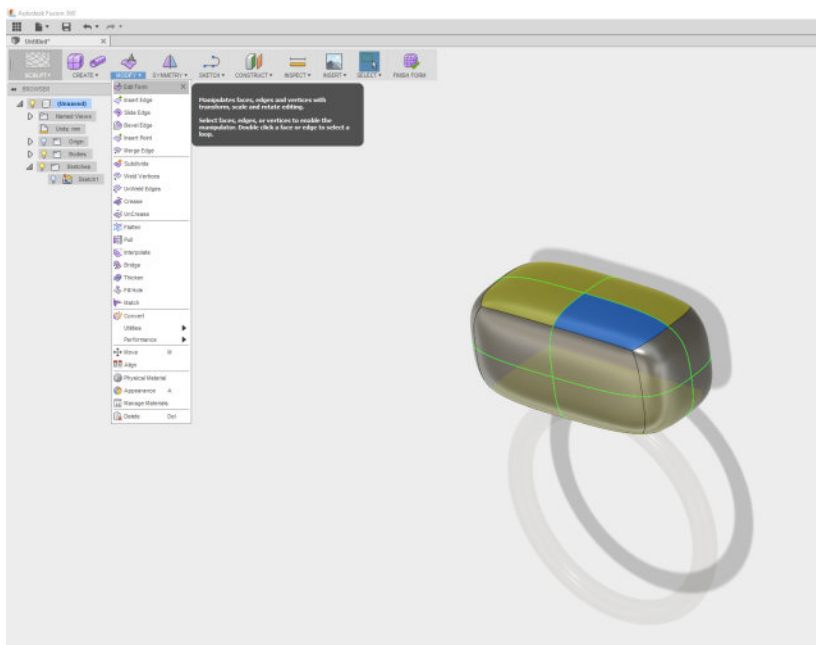
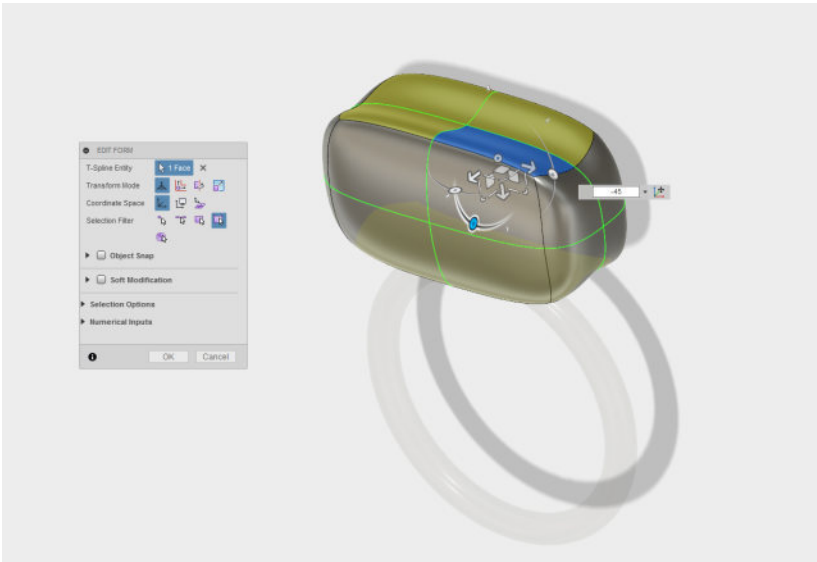

Figure 11-16. A face of the box has been selected, turning it blue. The Modify function has been selected.
Figure 11-17. *Twisting the faces inward using one of the manipulator widget handles*
19. Hover your mouse on top of the box. Click one of the top faces and it will turn blue as shown in Figure 11-16.
20. On the top menu bar click the down arrow under Modify and select Edit Form as shown in Figure 11-16. A manipulator widget will appear, and as you drag those various arrows and sliders, your form will change as shown in Figure 11-17. You
21. Click the slider circle as shown in Figure 11-17 and move that upward a bit. This will rotate the plane inward. Because you have symmetry turned on, all of the other faces will turn inward as well.
22. Turn that slider to -45 degrees as shown in the white entry window in Figure 11-17. Don't worry about changing any other settings in the pop-up window.